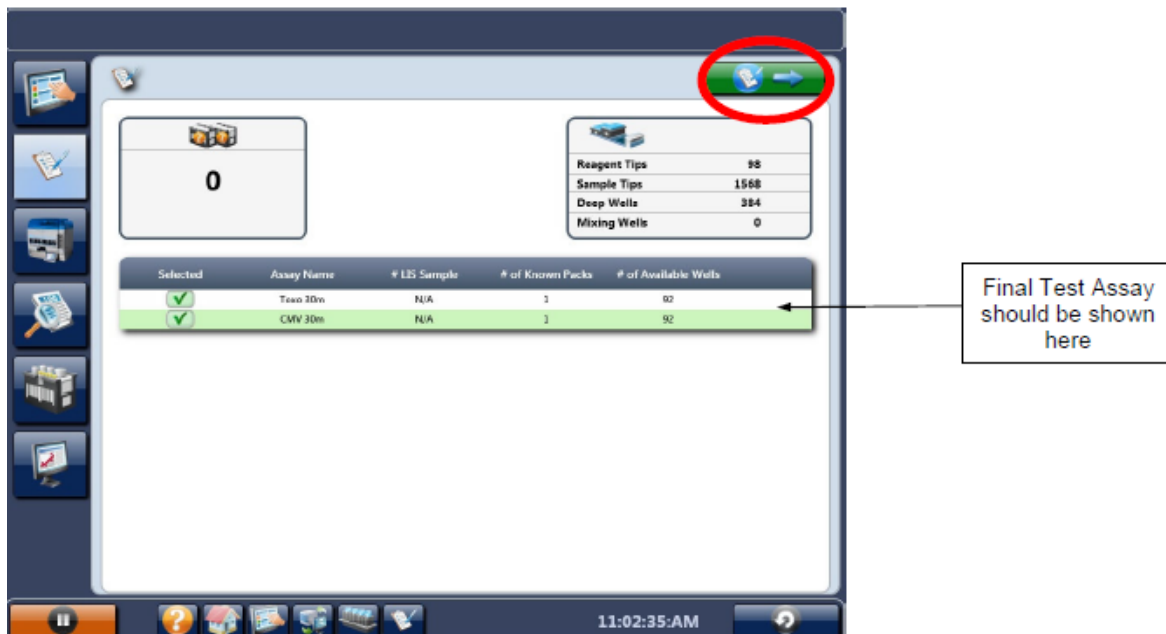

Figure 5-9: Worklist Filter Screen
8. Select the *Dashboard* icon from the left hand menu bar, then select the *Create Worklist* icon from the dashboard. The Final test Assay should be shown on the worklist filter and indicated to run automatically (Figure 5-9).